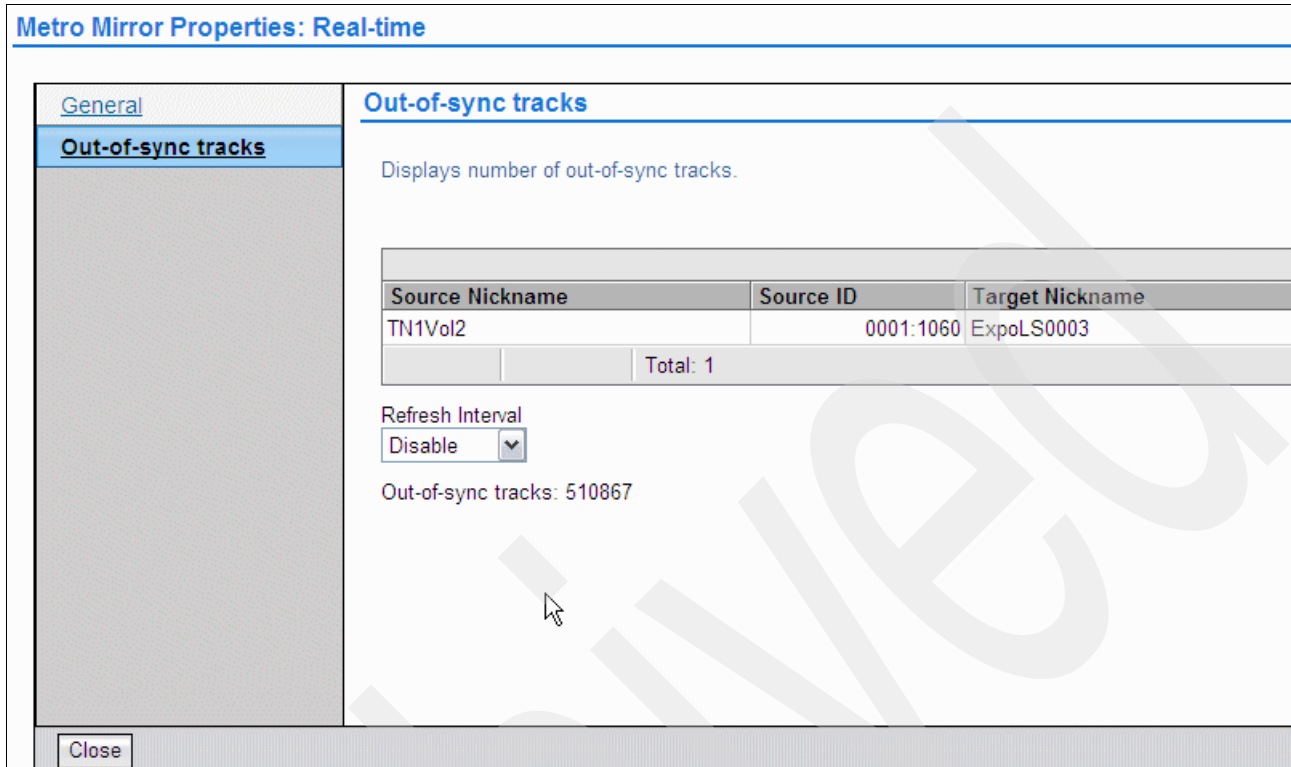

Figure 12-13 Out-of-sync tracks
3. From the Out-of-sync tracks properties panel, verify the number of tracks that are not synchronized (see Figure 12-13).